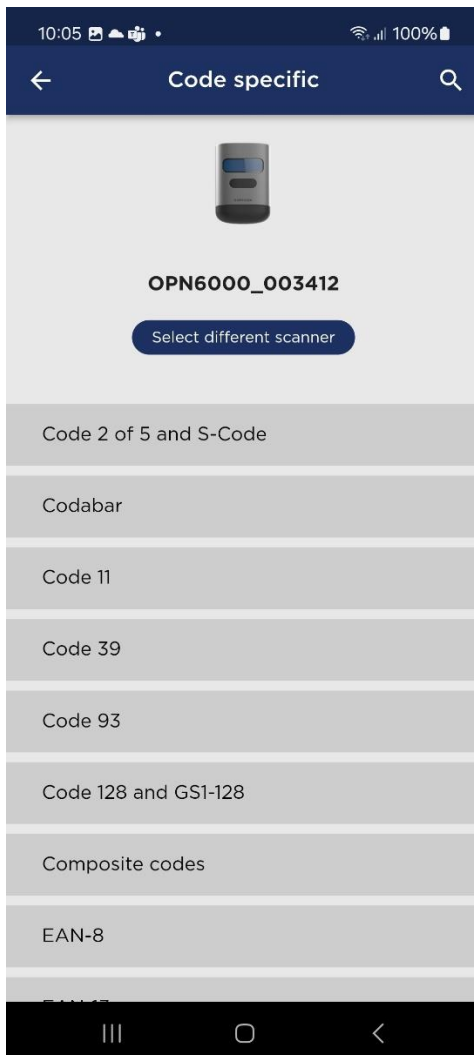

Figure 7-4: The *Code specific* page where you can configure code specific settings, such as check digit.
The *Code specific settings* allow for configuration of individual barcode symbologies supported by the scanner. These settings enable you to fine-tune the scanner's behavior for each barcode type. The options available in this section include settings such as check digit (CD) checking and transmission, AIM Identifier (AI) transmission, enabling addons, code modes, and more (see Figure 7-4).